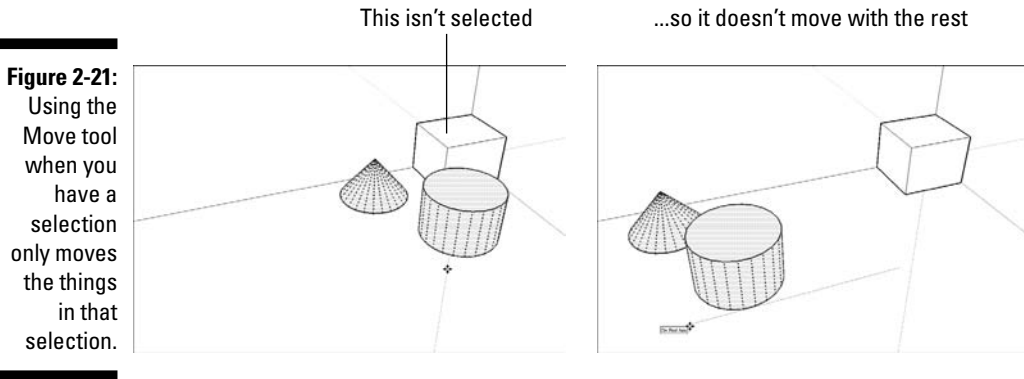

Figure 2-21:
- ✓ **Moving a selection:** When you have a selection of one or more entities, the Move tool only moves the things you've selected. This comes in handy every time you need to move more than one object; Figure 2-21 shows a selection being moved with the Move tool.